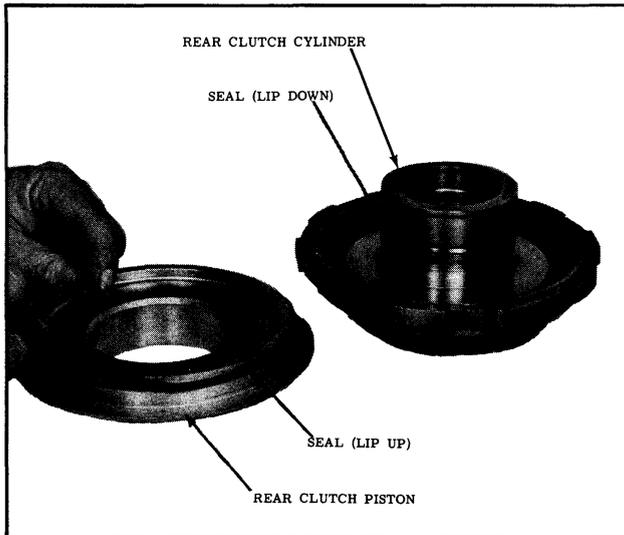

Fig. 3-76 Installing Oil Seal
- 15. Install new oil seals on the rear clutch piston and cylinder. (See Fig. 3-76) Lubricate seals with Hydra-Matic oil.